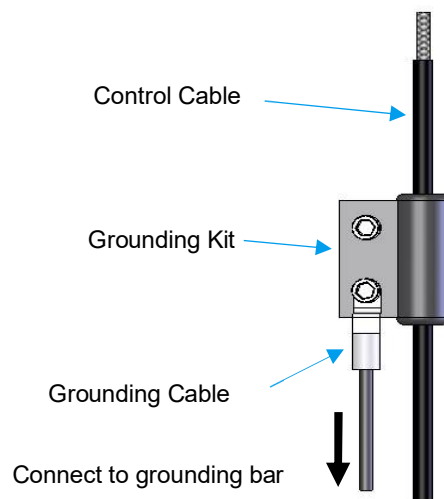

Figure 11
- c) Control cables metal sheath attach to grounding kit as shown in Figure 11.